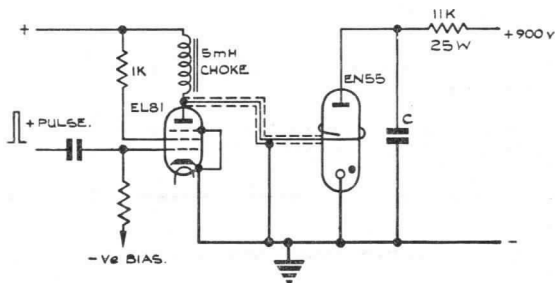

Fig. 2
- (2) For frequencies above 250 c/s it is desirable to use a hard valve trigger circuit. A suitable circuit is shown below (Fig. 2).